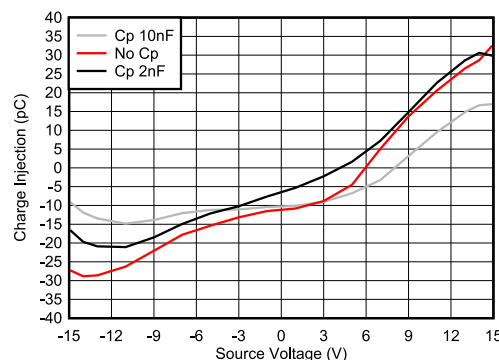

Figure 8-2. Charge Injection Compensation
The TMUX720x contains specialized architecture to reduce charge injection on the Drain (D). To further reduce charge injection in a sensitive application, a compensation capacitor (C_p) can be added on the Source (Sx). This will ensure that excess charge from the switch transition will be pushed into the compensation capacitor on the Source (Sx) instead of the Drain (D). As a general rule of thumb, C_p should be 20x larger than the equivalent load capacitance on the Drain (D). Figure 8-2 shows charge injection variation with different compensation capacitors on the Source side. This plot was captured on the TMUX7219 as part of the TMUX720x family with a 100pF load capacitance.